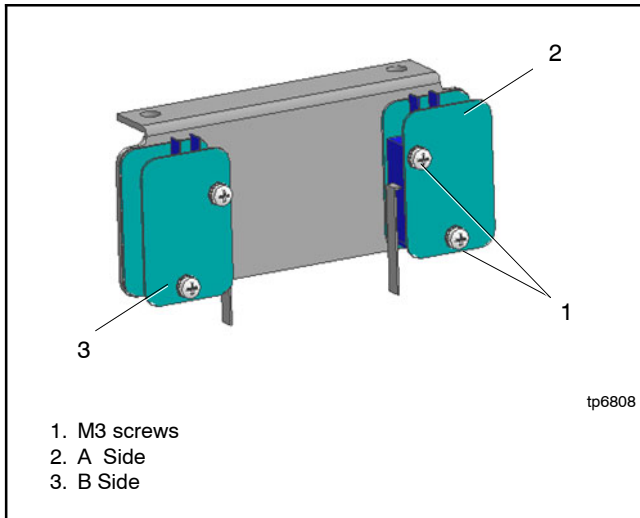
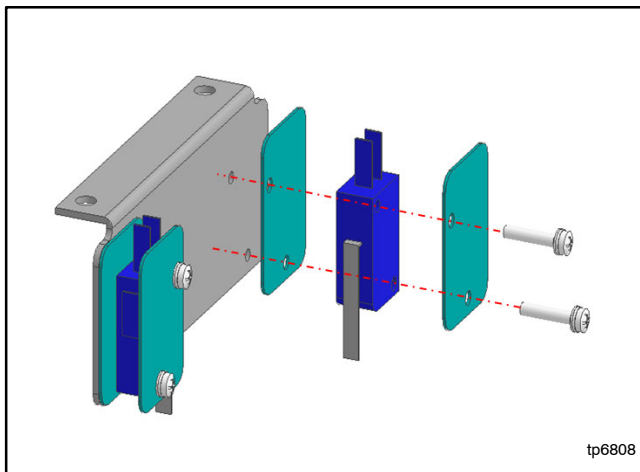

Figure 7-43 Microswitch Screws
Figure 7-44 Microswitch and Separators
3. Remove two M3 screws to remove the microswitch and separators. See Figure 7-43 and Figure 7-44.